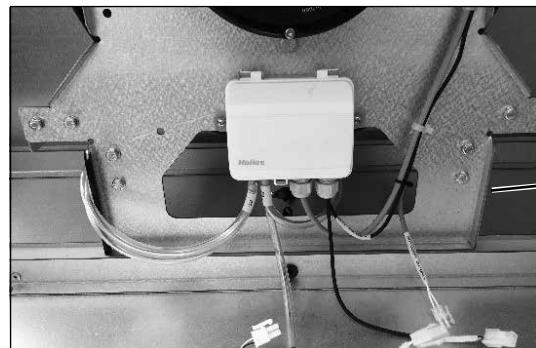

Fig. 48
2. Remove pressure hose (P2-) from pressure monitor (see Fig. 48).